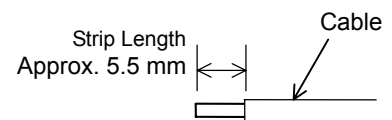

Fig. 4 Connection Cable Termination at Bus Connection Terminal SI-P1
2) Refer to Fig. 4 for an illustration of how the end of the connecting cable on the SI-P1 card's side should be prepared.